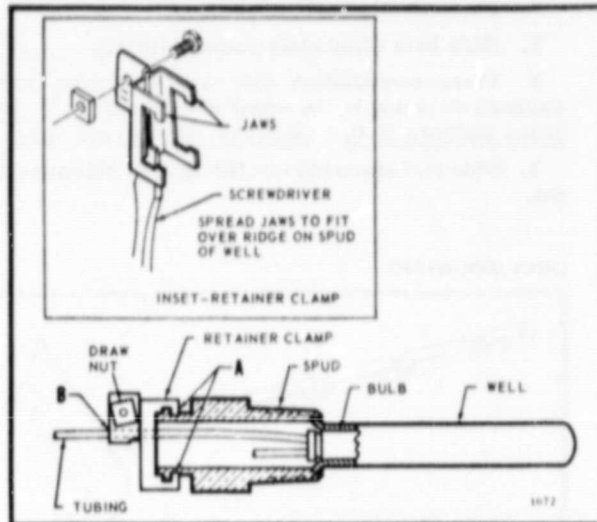
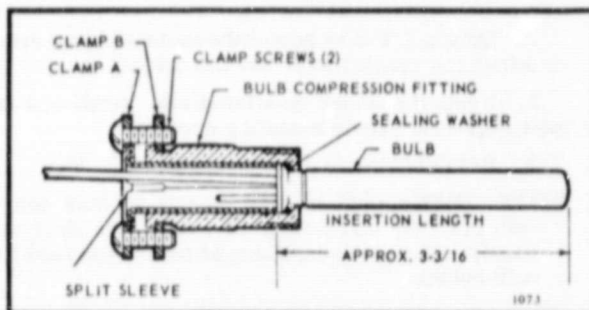
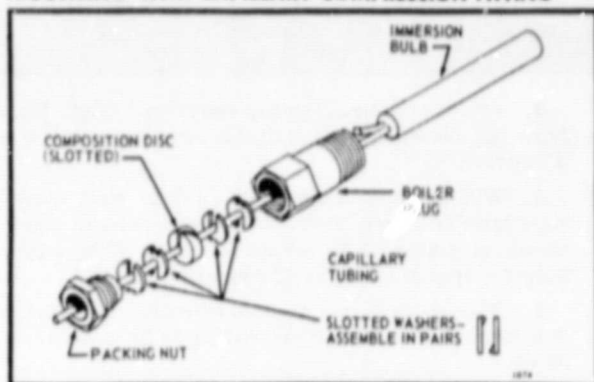

FIG. 5—IMMERSION WELL FITTING.
FIG. 6—BULB COMPRESSION FITTING. USE WITH MODEL L4008A, B, E, J, OR L6008A.
FIG. 7—CAPILLARY COMPRESSION FITTING. USE WITH MODEL L4008C,D,K, OR L6008C,E.
Bulb Compression Fittings (see Fig. 6)—
Capillary Compression Fittings (see Fig. 7)—
The remote temperature-sensing bulb can either be installed in an immersion well (Fig. 5) that extends into the boiler or tank, or it can be directly immersed in the liquid. For installations not using a well, secure the remote bulb with a bulb compression fitting (Fig. 6), or capillary compression fitting (Fig. 7).
Well, bulb compression fitting or capillary compression fitting must be ordered separately. Sizes available: 1/2 in., 3/4 in. NPT spud. Well, if used, must fit sensing bulb snugly for good thermal response. Insert bulb until it rests against bottom of well, then hold it there while tightening the tubing clamp. (See Fig. 5.)
4. Place composition disc and 4 slotted brass washers on tubing in the order shown in Fig. 7. Turn brass washers so that slots are 180 degrees apart.